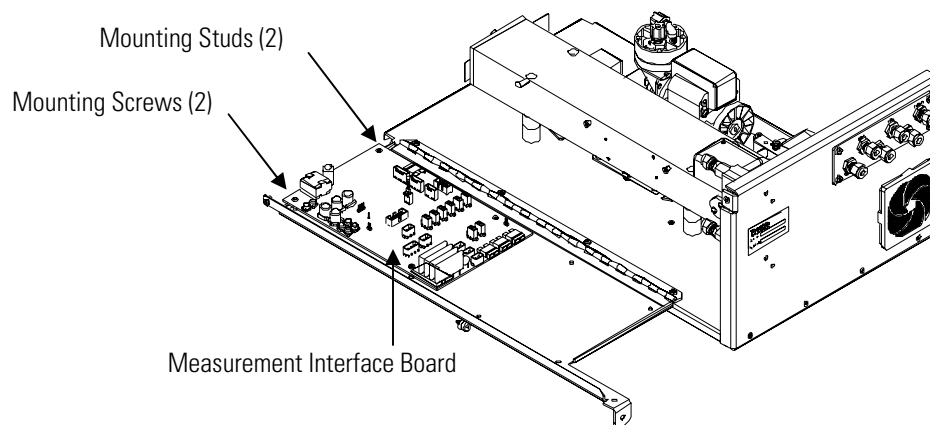

Figure 7–18. Replacing the Measurement Interface Board
5. Using the nut driver, remove the six standoffs securing the board to the rear panel (Figure 7–17).
Use the following procedure to replace the measurement interface board (Figure 7–18).
Use the following procedure to replace the front panel board (Figure 7–19).